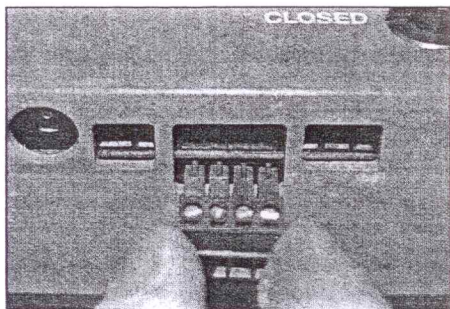

Figure 9
6. Remove the green circuit board terminal strip from the Control Unit by pulling straight out on the terminal strip. **Figure 9**